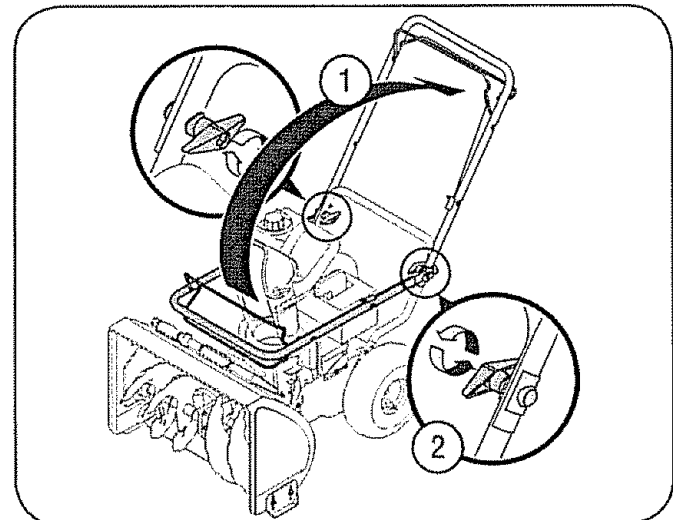

Figure 2
3. Loosen the wing knob and tab on each side of the handle. See Figure 2.
4. Being careful not to bend or kink the cables, hold both controls against upper handle and pull up as shown in Step 1 of Figure 2. Make sure that the upper handle locks over the lower handle and handle tabs align with the handle. You may have to carefully maneuver the upper handle to clear chute assembly.
5. Tighten the wing knobs on each side of the handle. Refer to Step 2 in Figure 2.